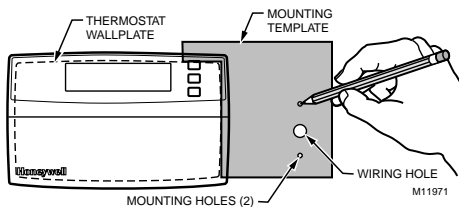

Fig. 3. Positioning mounting template.
1. Hold the mounting template (included in the W8600F kit) next to the T8600 as shown in Fig. 3.